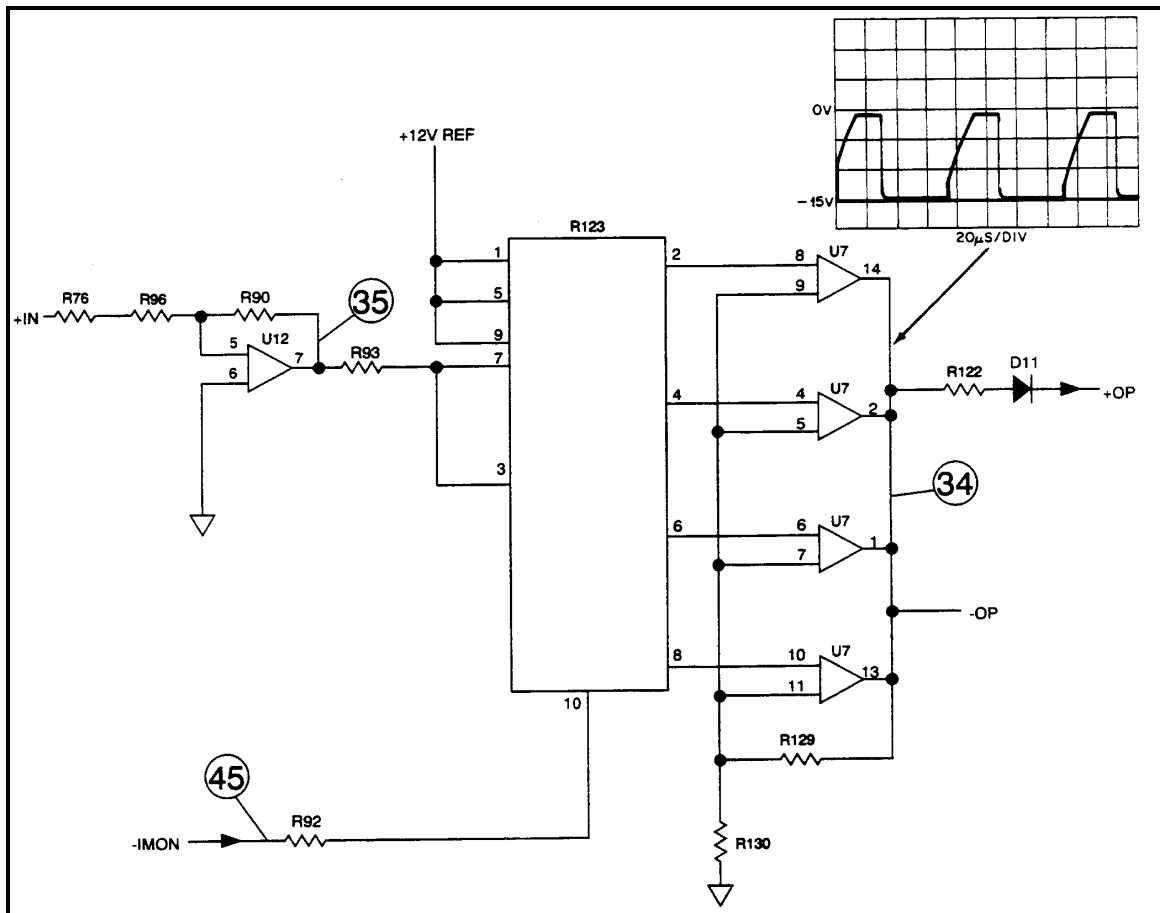

Figure 3-10. Overpower Circuit Troubleshooting
Overpower Circuit Troubleshooting (Figure 3-10)
When the overpower circuit is active, limiting input power capability, the comparator circuit becomes a relaxation oscillator and its output voltage at test point (34) will go between -14V and 0V (see waveform on Figure 3-10).